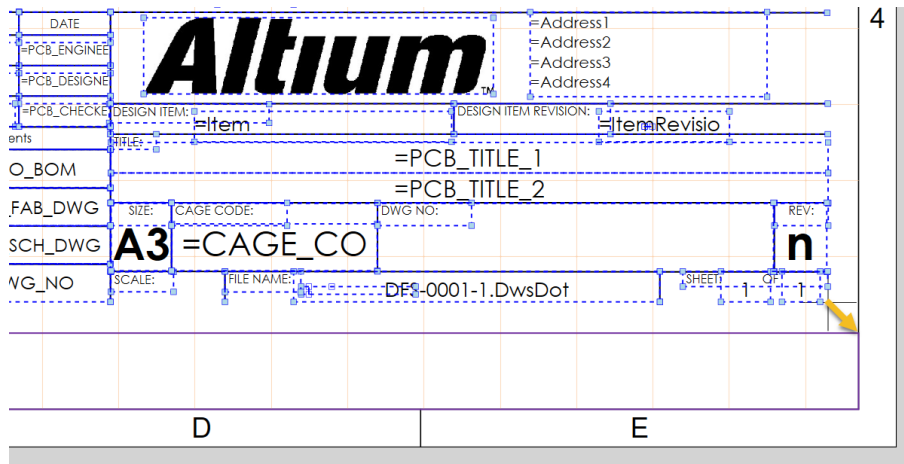

Figure 10. Position Title Block
- g) Paste **Ctrl+V** the Title Block and position it at the lower right corner, above the rectangle you created, Figure 10.